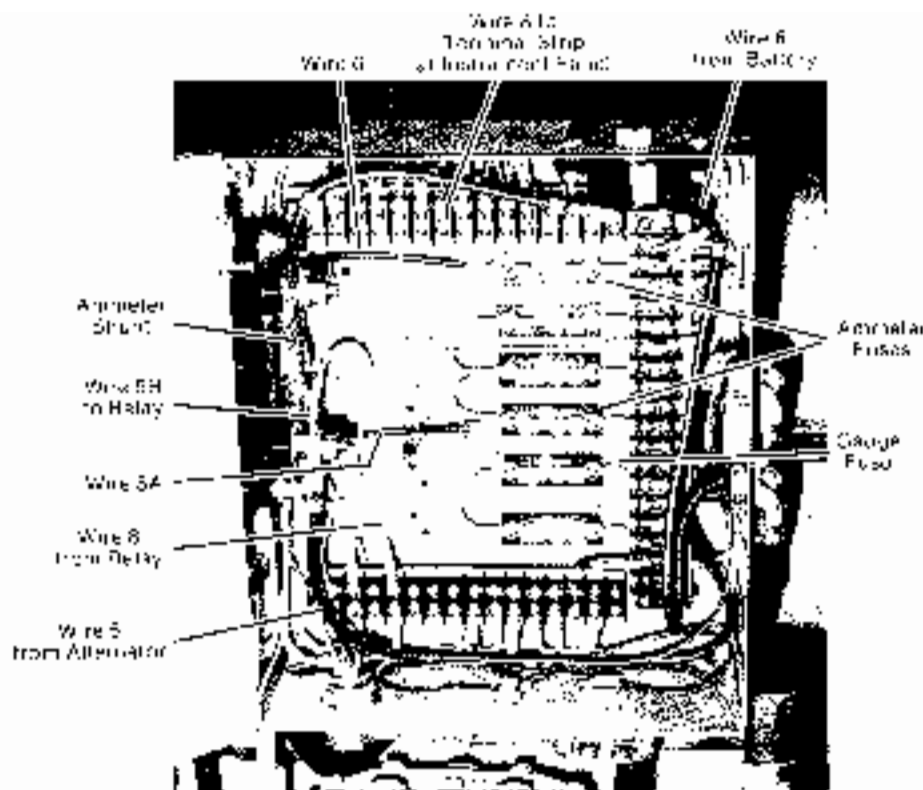

Figure 4 Junction Box on Engine
1. Inspect the gauge fuse in the junction box (see Figure 4). If the fuse is blown, replace it with a new one. If the fuse is okay, perform step 2.
1. Inspect the ammeter fuses in the junction box (see Figure 4). If either fuse is "blown," replace it with a new one.
4. If a shunt is used (see Figure 4), replace the original shunt with one known to be correct. If normal indications result, replace the original shunt.